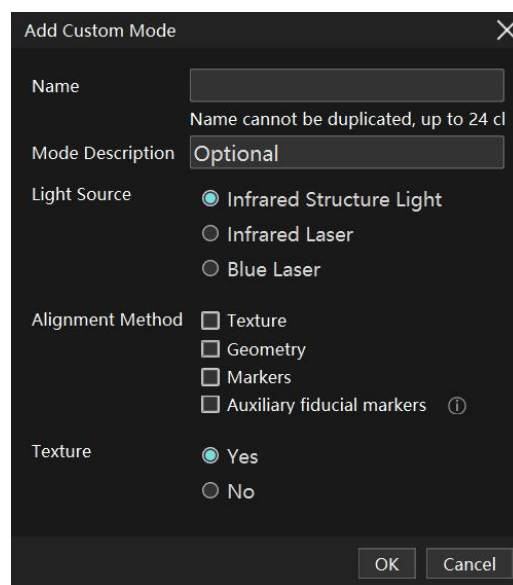

Figure 7-4 Add Custom Mode
- **Alignment Method:** The first three options (Texture, Geometry, Markers) can be freely combined, while the fourth, **Auxiliary Fiducial Markers**, requires separate selection, which is shown in Figure 7-4.